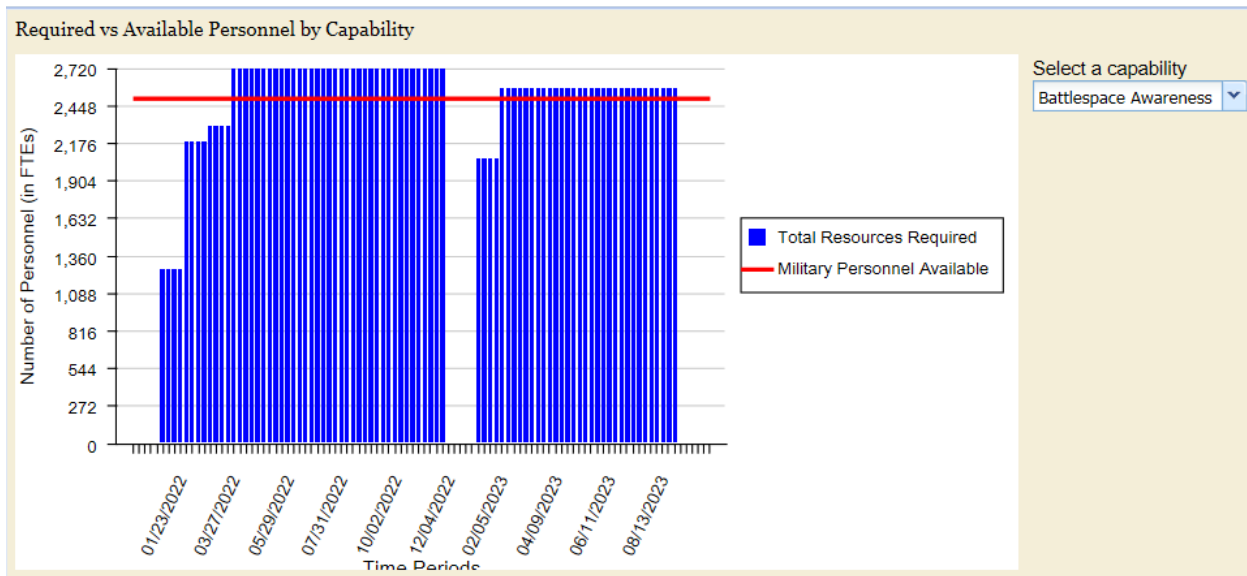
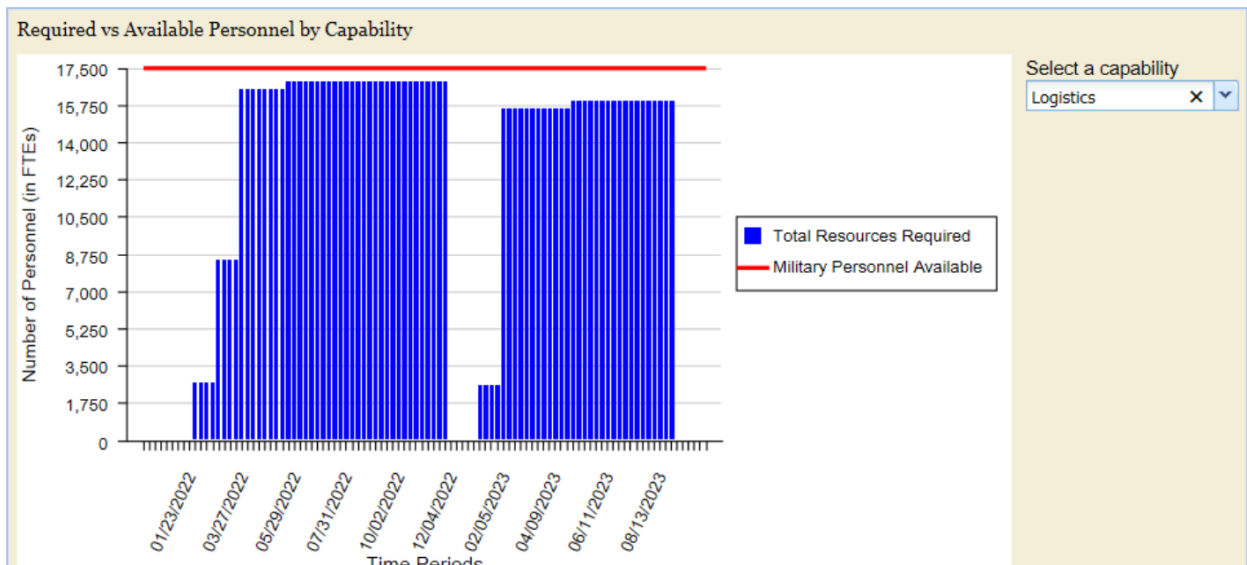

Figure 3. Required vs. Available Personnel for Battlespace Awareness.
Figure 4. Required vs. Available Personnel for Logistics.
- f. Click on Graph: Required vs Available Personnel by Capability. This graph shows the manpower requirements by capability. The red line shows the military personnel available (active + reserve) for the selected capability. Check that the graph looks like Figure 3 when Battlespace Awareness is selected and like Figure 4 when Logistics is selected. There are not enough military personnel to meet the Battlespace Awareness requirements, but there is sufficient military personnel to meet the Logistics requirements.